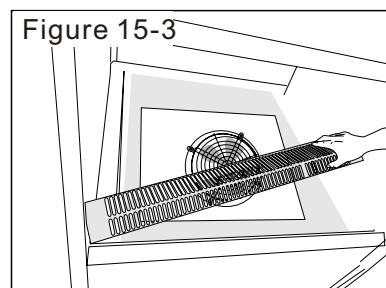

Figure 15-3
Step 3: Lift off the Suction Grille and place to one side. (Figure 15-3) Caution! Do not touch the fan blades nor allow anything to drop into this area. (Figure 15-6)